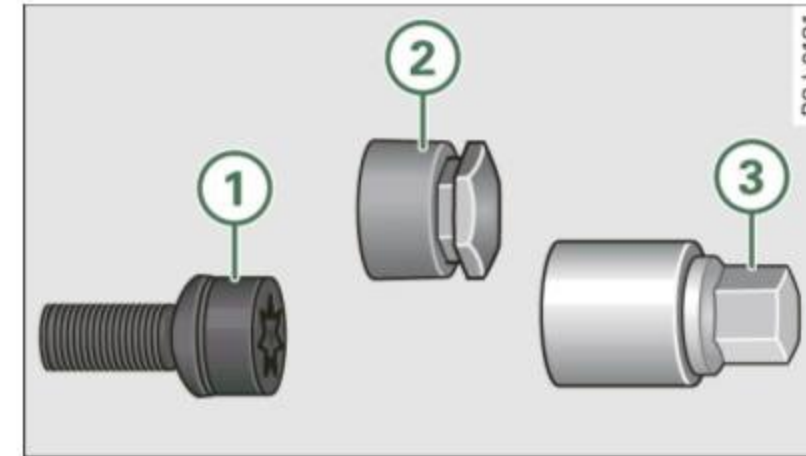

Fig. 187 Anti-theft wheel bolt with cap and adapter
- Remove the cap* ⇒ fig. 187 ② using the plastic clip found in the vehicle tool kit.
- Insert the adapter ③ as far as it will go into the anti-theft wheel ① bolt.
- Push the socket wrench over the adapter ③.